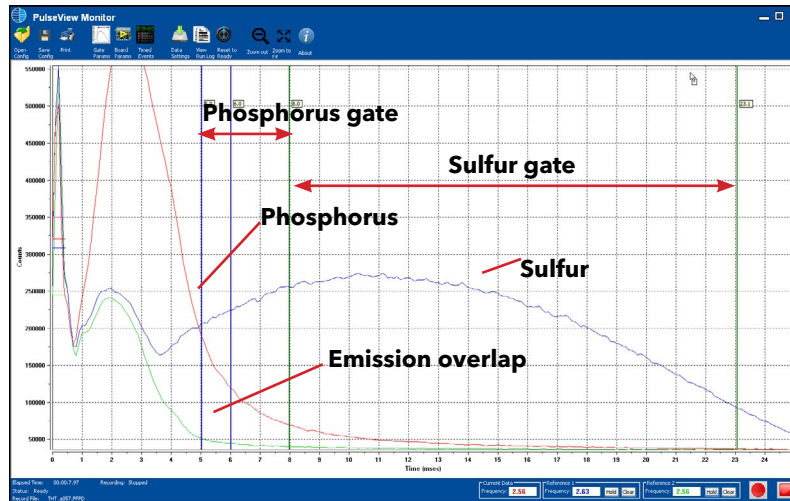
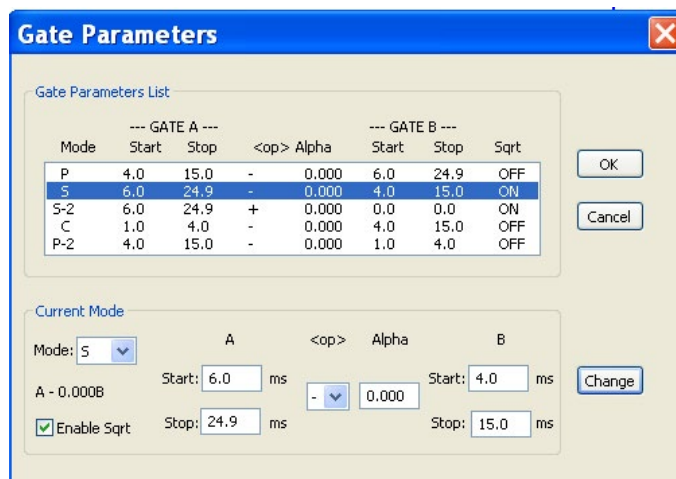
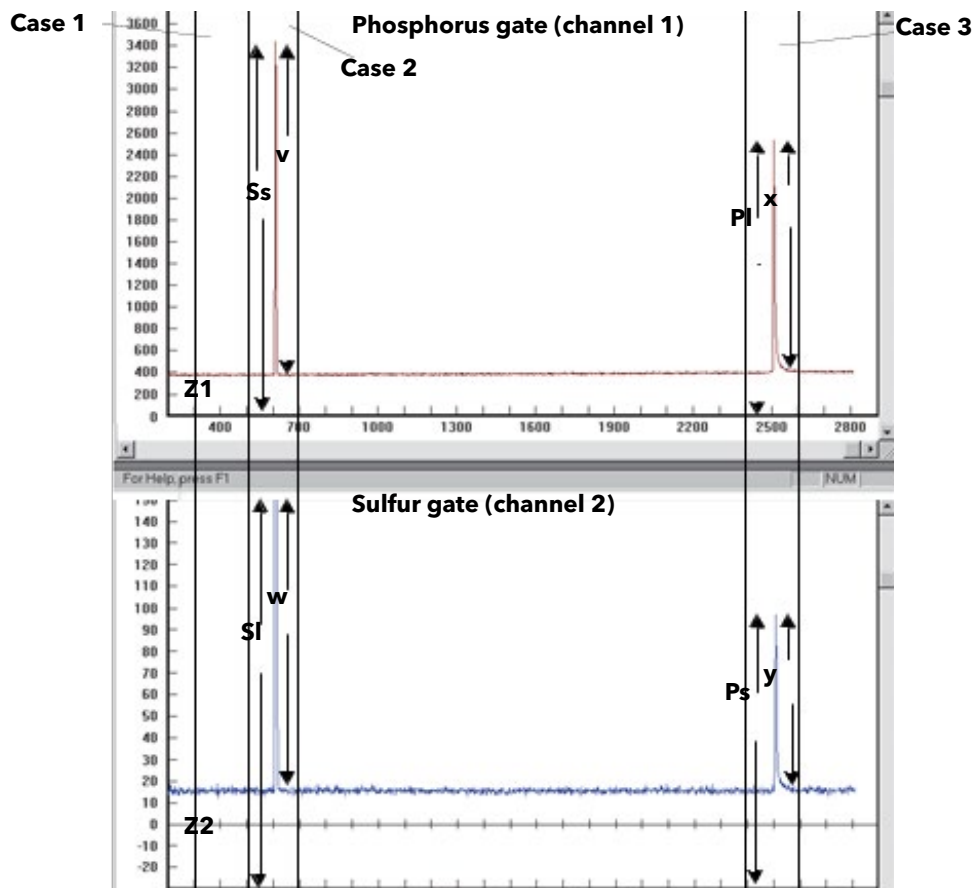

Figure 14.1. Phosphorus and Sulfur Emissions
Figure 14.2. Gate Parameters Window Showing Gate Settings for Phosphorus (P) and Sulfur (S)
Figure 14.3. Chromatograms from Channel 1 (P gate) and Channel 2 (S gate) Using a TBT/THT Standard
To avoid confusion, phosphorus and sulfur are used in the following example to demonstrate how to increase selectivity between two species using PulseView Monitor software's dual gate capability. The gates used to differentiate the phosphorus and sulfur response modes are referred to as gate P and gate S, respectively. The phosphorus and sulfur chemiluminescent time domains and the gate P and gate S settings are shown in Figure 14.1.
As seen in Figure 14.2, PulseView Monitor lets the operator specify two gates, A and B, for each mode within the Gate Parameters screen, enhancing PFPD selectivity for two (or more) species with partially overlapping emission-time profiles. To employ this option, gate A must incorporate a substantial segment of the first species' chemiluminescent time domain that does not significantly overlap with the time domain of species two. Conversely, gate B must include a substantial segment of the second species' time domain that does not significantly overlap with the time domain of species one. For example, maximize selectivity for phosphorus when gate A in the phosphorus mode is set to incorporate as much of the phosphorus chemiluminescent time domain as possible while at the same time minimizing the carbon or sulfur chemiluminescent time domain. (In Figure 14.1, the phosphorus gate is set from four to nine milliseconds, which eliminates most of the carbon response and the back end of the sulfur emission.)
To use the dual gate technique to eliminate interference between two species, set reciprocal gate assignments in the PulseView Monitor Gate Parameters screen. Assign gate A to the species of interest and gate B to the interfering species. For example, specify gate A start and stop times for the phosphorus mode to optimize phosphorus response (4–9 ms), while gate A start and stop times for the sulfur mode are set to optimize the sulfur response (9–24.9 ms). Conversely, gate B in each mode specifies the optimal gate settings for the interfering species (i.e., sulfur in the phosphorus mode and phosphorus in the sulfur mode). Reasonable gate A start and stop times for phosphorus and sulfur are shown in Figure 14.2.
The PFPD provides two separate analog signal output channels to assign the phosphorus mode to channel 1 and the sulfur mode to channel 2. When setting the Alpha value in each mode to zero (Figure 14.2), channel 1 provides the output in the phosphorus mode (i.e., gate P output), and channel 2 provides the output in the sulfur mode (i.e., gate S output). Thus, the output signals from phosphorus and sulfur in channels 1 and 2 are directly proportional to the concentration of each species in the combusted analyte and the average emission coefficient of each species within gate P and gate S, respectively.
Figure 14.3 shows channels 1 and 2 chromatograms derived using the Figure 14.2 gate parameter values together with a pesticide test standard containing tributyl phosphate (TBP) and tetrahydrothiophene (THT). Because the Alpha values are set to zero in this example, the PFPD's interheteroatom selectivity is not optimized using dual gate enhancements.
The first (left) peak in each chromatogram in Figure 14.3 represents the compound with only sulfur (i.e., THT, which contains no phosphorus). A sulfur peak appears in the phosphorus mode because the phosphorus gate (gate P, which is output in channel 1) contains part of the overlap between the phosphorus and sulfur emission lifetimes (shaded area in Figure 14.1). Similarly, the phosphorus peak appears in the sulfur mode because the sulfur gate (gate S, which is output in channel 2) also partly includes the overlap between the phosphorus and sulfur emission lifetimes.
1. Specify the phosphorus and sulfur mode in the PulseView Monitor Gate Parameters screen shown in Figure 14.2. Set the Alpha value for each mode to zero.
3. Ensure a suitable filter for detecting the species of interest is installed in the PMT assembly. For example, the chromatogram shown in Figure 14.3 was obtained using the GG 495 filter to enhance selectivity for phosphorus, which was of low concentration relative to sulfur in the TBP/THT test standard. See Chapter 12 for other filters.
4. Configure the GC for a test run to analyze a suitable test standard containing both phosphorus and sulfur. Ensure each compound incorporated in the test standard contains only one of the heteroatoms of interest. Also, heteroatom concentrations in the test standard compounds should be similar to the anticipated concentrations of these species in the substances analyzed. If this is not the case, adjust estimated Alpha values to adequately subtract the chemiluminescence from interfering species. Figure 14.3 shows the chromatograms obtained from the two output channels using a TBP/THT test standard.
6. Using the two chromatograms, select three segments that represent the following three cases (Figure 14.3).
- Case 2: Small sulfur peak (SS) in channel 1 chromatogram with corresponding large sulfur peak (SL) in channel 2 chromatogram. Measure the heights of the two peaks above zero (Figure 14.3).
- Case 3: Large phosphorus peak (PL) in channel 1 chromatogram with corresponding small phosphorus peak (PS) in channel 2 chromatogram. Measure the heights of the two peaks above zero (Figure 14.3).
The TBP/THT standard generates the two chromatograms shown in Figure 14.3, producing the following results: